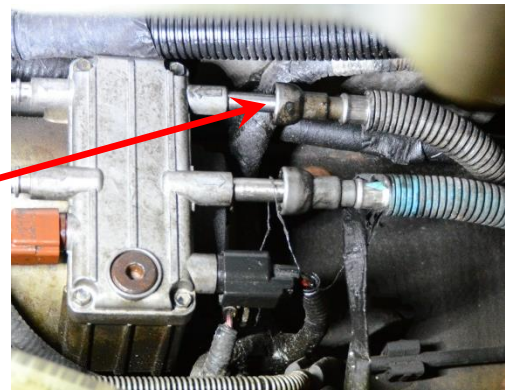

FIGURE 19
- 6B-2. Remove the engine fuel return line quick connect fitting from the male connector located at the top front of the OE frame mounted fuel pump (figure 19). You will need the disconnect tool for this one.